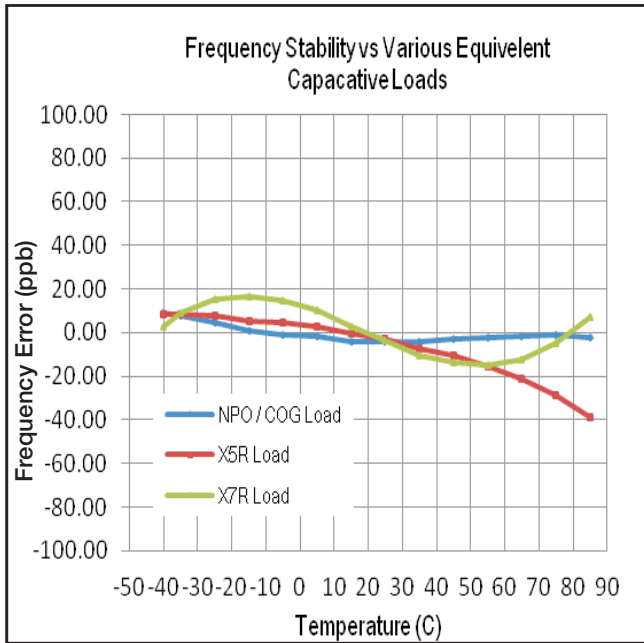

Figure: 13-01
2. Always adhere to stated loading specifications for OCXO RF output. OCXOs are load sensitive and require an equivalent load capacitor with a flat capacitance vs. temperature curve to achieve stated frequency stability specifications. Consider NPO/COG capacitors when practical for optimal temperature characteristics. See FIGURE 13-01 Frequency Response to various equivalent capacitive loads.
3. Use secondary buffers to fan the OCXO RF signal to multiple inputs or timing circuits. Avoid designs that would “switch in” additional capacitive loads. Avoid designs that would “switch between” multiple capacitive loads. OCXOs are load sensitive devices. See FIGURE 13-01.